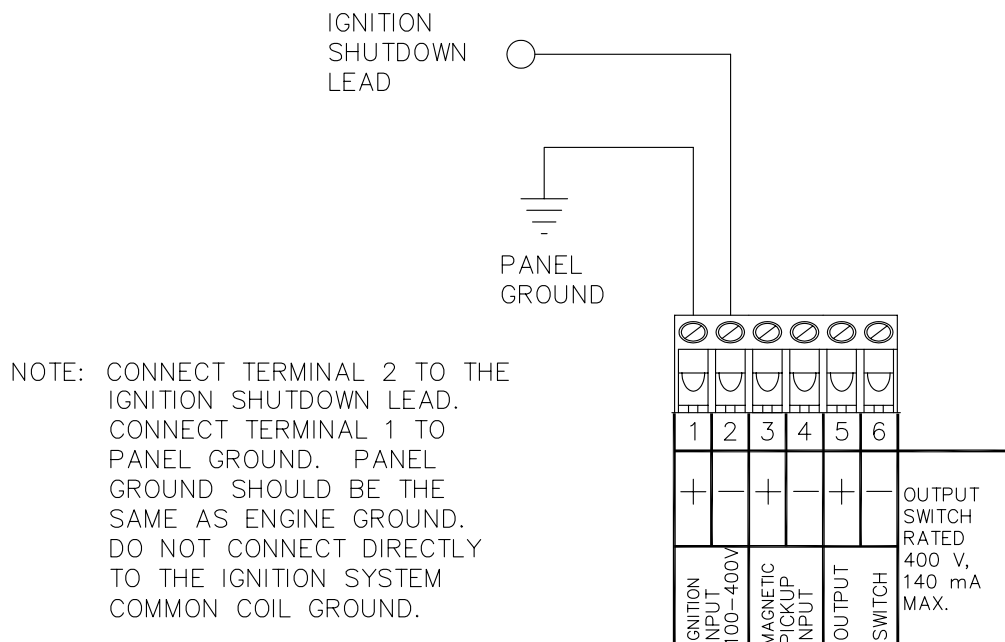

FIG. 6 DTHO-1201/3201 WIRING DIAGRAM
- FIG. 6 WIRING DIAGRAM - MAGNETIC PICKUP INPUT